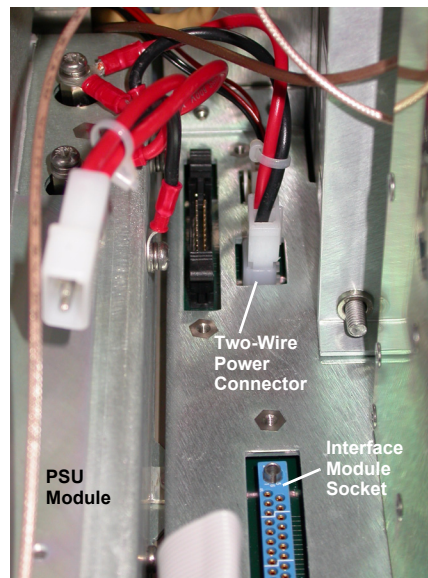

Fig 5-24 Two-Wire Power Connector
- (4) Refer to Fig 5-24 and identify the two-wire power connector. Disconnect the free socket from the chassis plug.